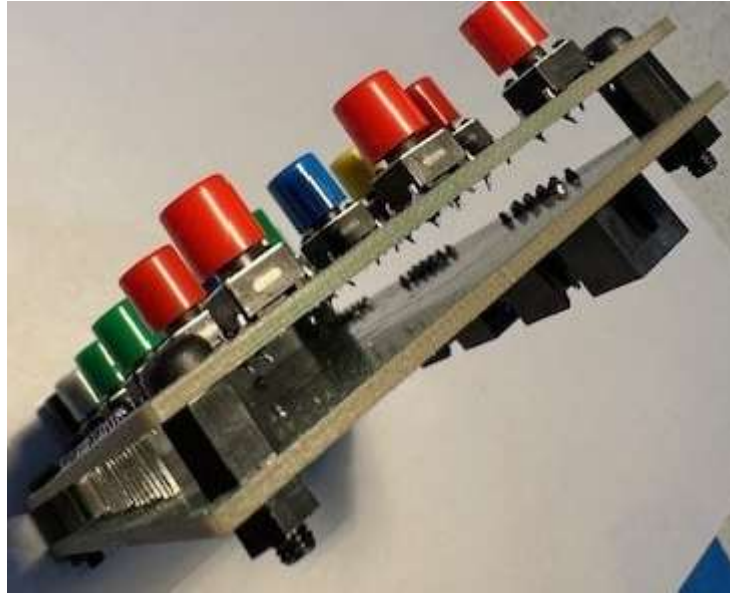

Figure 3. M3 Spacers to Keep Boards Aligned.
10. Check to see that J1 on both boards line up perfectly, then remove the screws and place the 20-pin male IDC header between the two boards as shown in Figure 3.